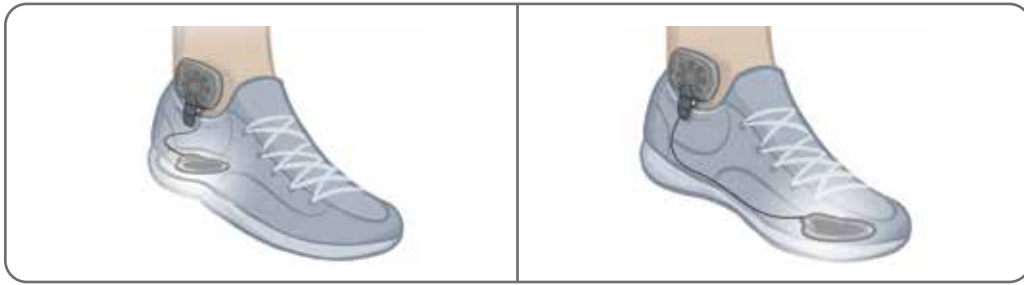

Figure 8-14: Final Position of the Foot Sensor Attached to the Shoe
5. Clamp the Foot Sensor transmitter on to the inner rim of the shoe. Face the starburst logo on the transmitter away from the ankle. See Figure 8-14.
6. Cover the pressure sensor with the insole. Tuck any excess wire under the insole. See Figure 8-14.